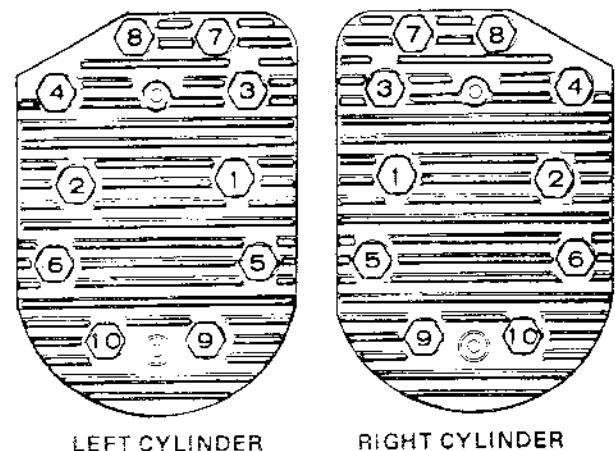

FIGURE 46. HEAD BOLT TIGHTENING SEQUENCE
6. Follow the head torque sequence shown in Figure 46.
After the head nuts have been tightened once, it will be necessary to tighten each head nut to the specified torque a second time. Follow the same sequence shown in Figure 46. Failure to retorque could result in a blown head gasket.